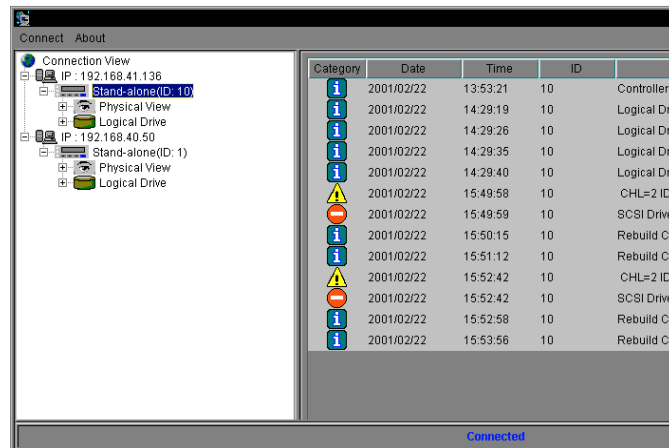

Figure 12-6: Event Monitor View
Step 3. The connection is successful when the list of events shown in *Figure 12-6* appears and the Physical view and Logical unit subtrees appear in the navigation panel.